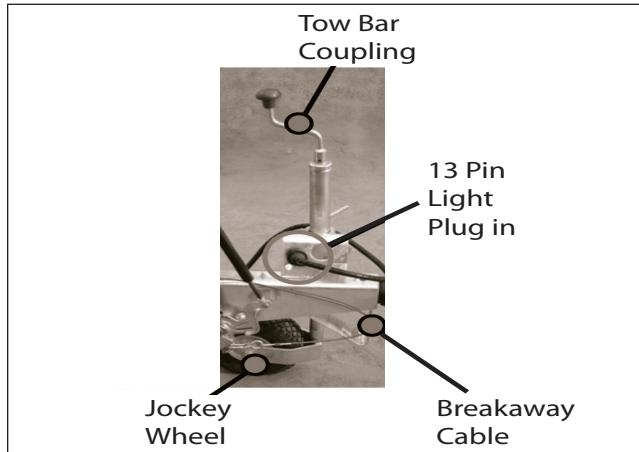

Figure 10.5 – Illustration of a Jockey Wheel
5. Use the jockey wheel to raise or lower the tow bar coupling to position the machine above the 50mm ball hitch on the towing vehicle (refer to Figure 10.5).